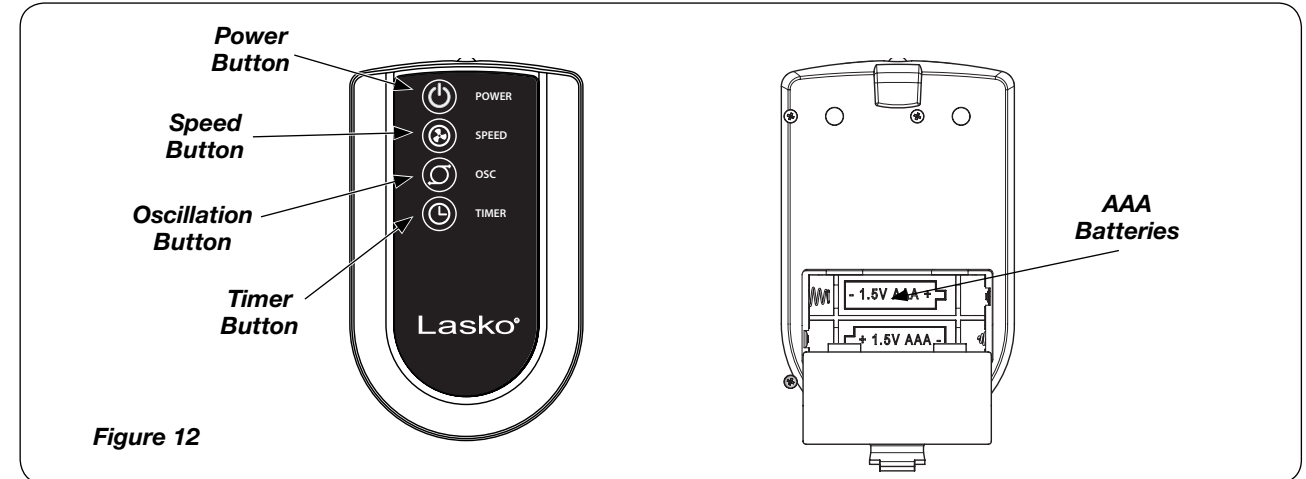

Figure 12
This Fan may be operated by the Controls located on front of the unit (as shown in *Figure 9*) or by the Remote Control (shown in *Figure 12*).
1. Install batteries as shown in *Figure 12*. The battery is type “AAA” included.